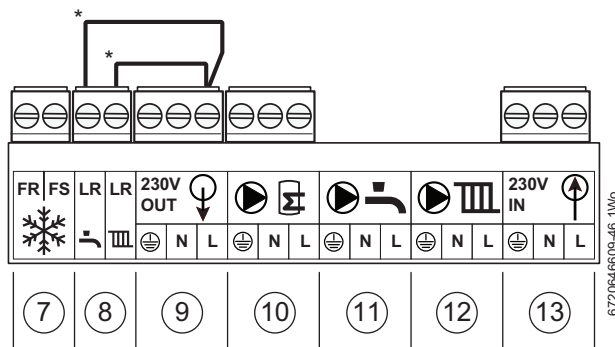

Fig. 41 Mains voltage connectors
Table 22 Key to figure 41
► When connecting Worcester plug-in or EMS intelligent controls, the links (→ items 8 & 9 in figure 41) must be left in the connection points.